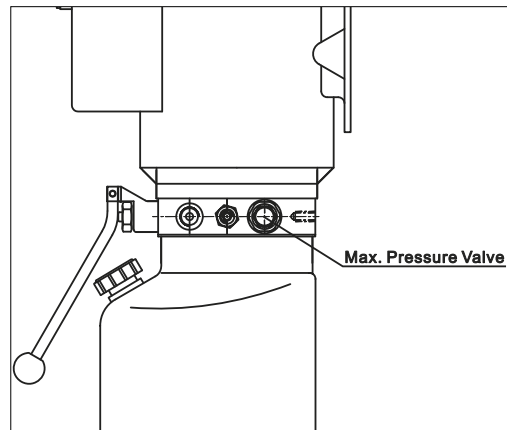

Fig. 13
- ◆ The maximum pressure valve **(Fig. 13)**, located on the hydraulic oil power unit, will trip if the lift is overloaded.